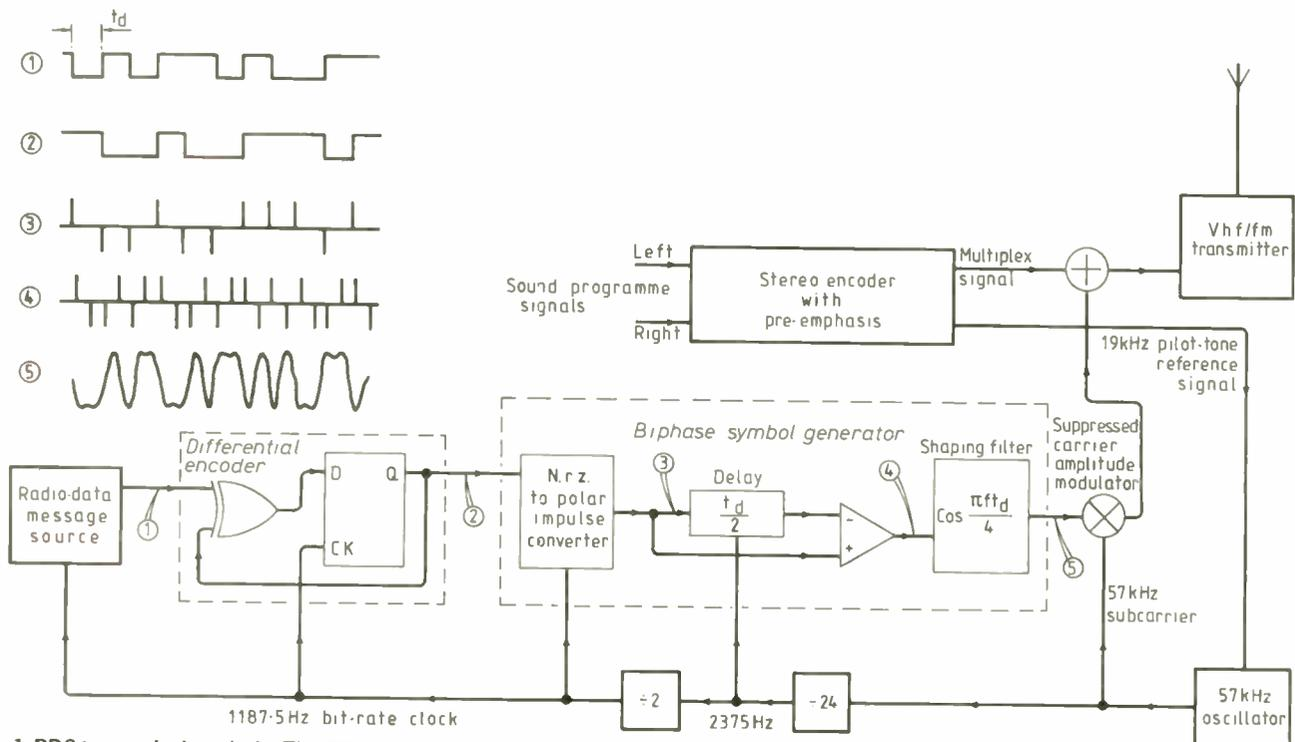

Fig. 1. RDS transmission chain. The 57kHz subcarrier is locked to the stereo pilot tone, if present.
An example of the resultant impulse train is shown at (4) in Fig. 1. This is then shaped by a filter whose response is ideally